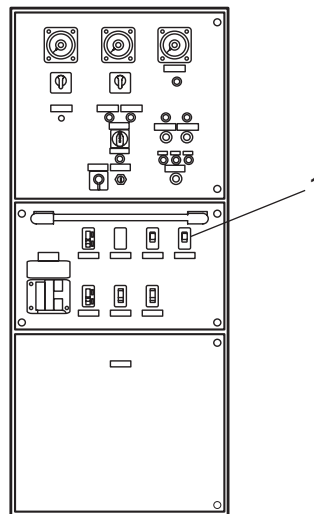

Figure 1. Emergency Switchboard
1. In the emergency diesel generator room, at the emergency diesel generator switchboard, set the 3-10KVA 1Ø XFMRS circuit breaker (figure 1, item 1) to ON.